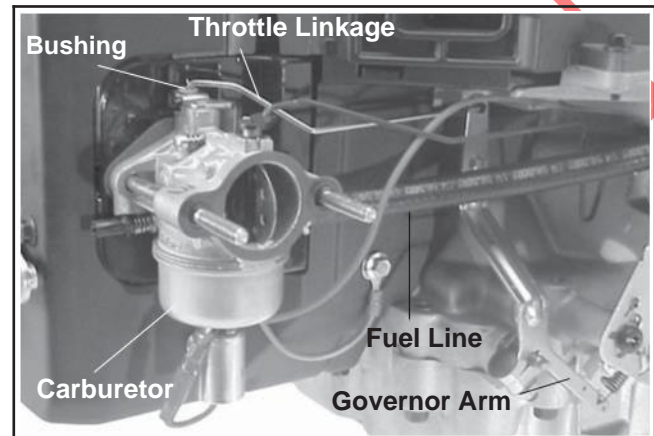

Figure 11-61. Installing Carburetor and External Governor Components.
2. Install the bushing and attach the throttle linkage to the carburetor throttle lever. See Figure 11-61.